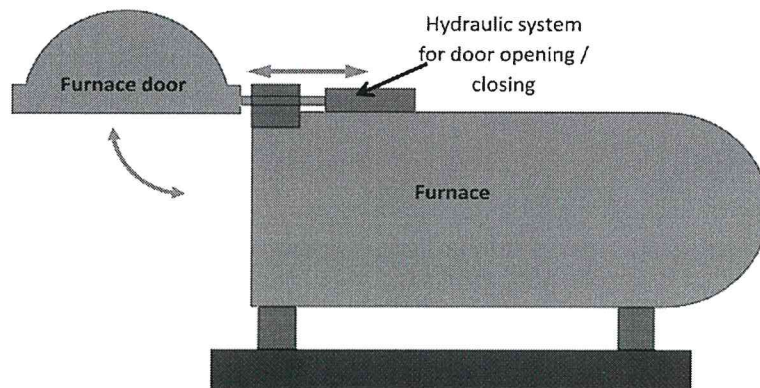

Figure 4(c): Furnace and its door
- c) By analysing and selecting hydraulic component listed in the Table 4(c), construct a circuit that can open and close a furnace door. Figure 4 (c) shows the schematic of the door that will be controlled on the furnace.